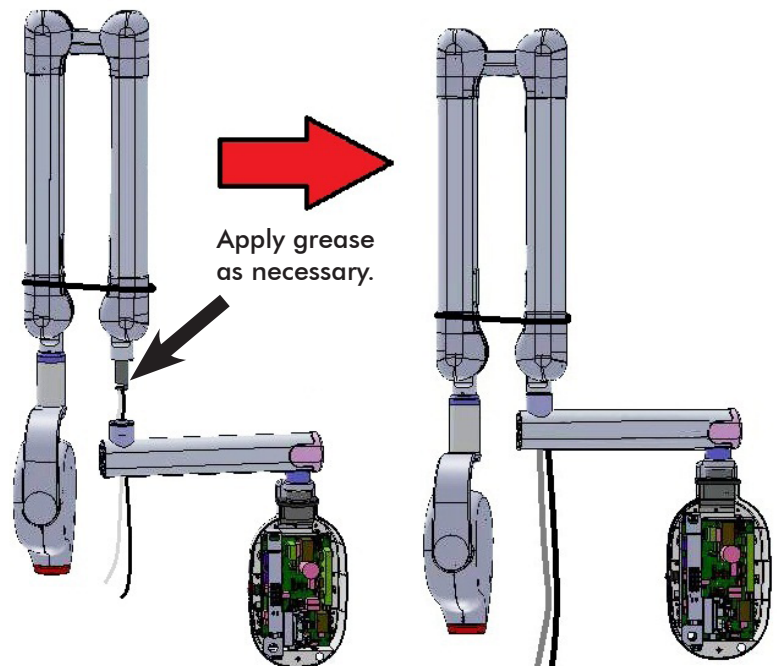

Figure 25
- Route scissor-arm cables through the coupler on top of the Straight Arm and install scissor-arm with attached tube head into the straight-arm (Use guide wire for routing wires) as shown in Figure 25 .